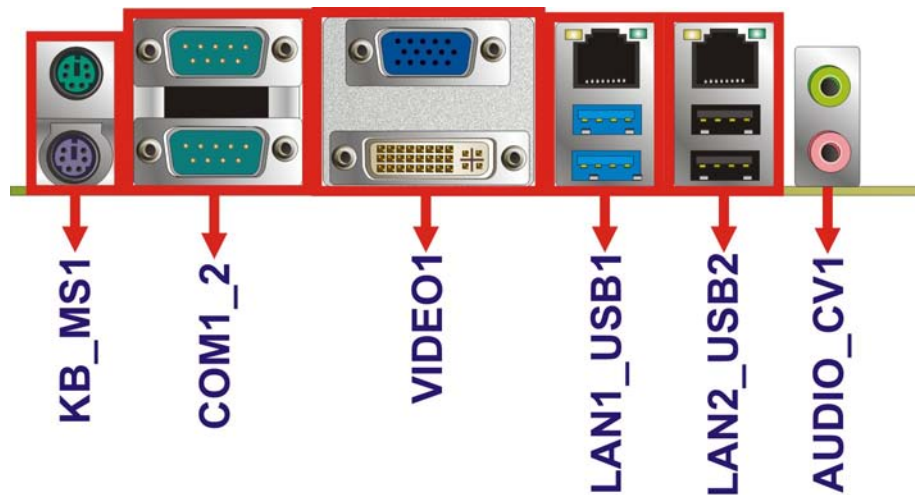

Figure 3-23: KINO-AQ870 External Peripheral Interface Connector
Figure 3-23 shows the KINO-AQ870 external peripheral interface connector (EPIC) panel.
CN Location:	See Figure 3-23
- CN Location: See **Figure 3-23**
- CN Location:** See **Figure 3-23**
CN Location: See **Figure 3-23**